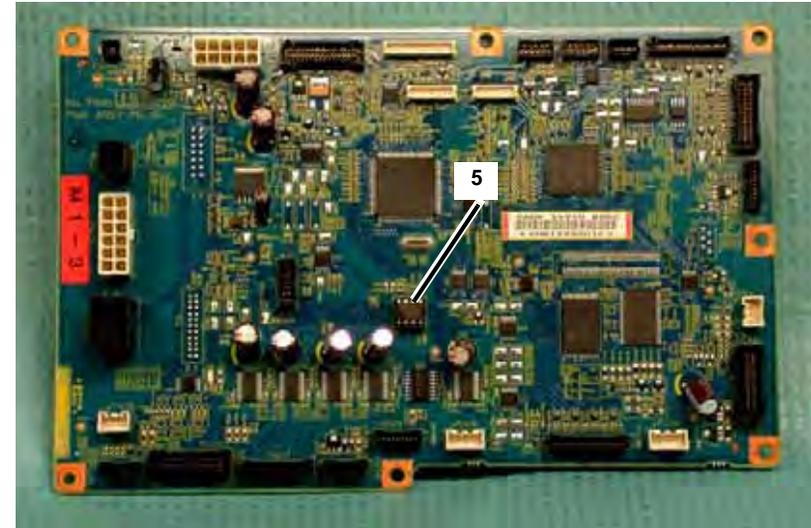

Figure 4 EEPROM
5. When replacing the MCU PWB, remove the EEPROM from the old MCU PWB and install it onto the new MCU PWB (Figure 4).